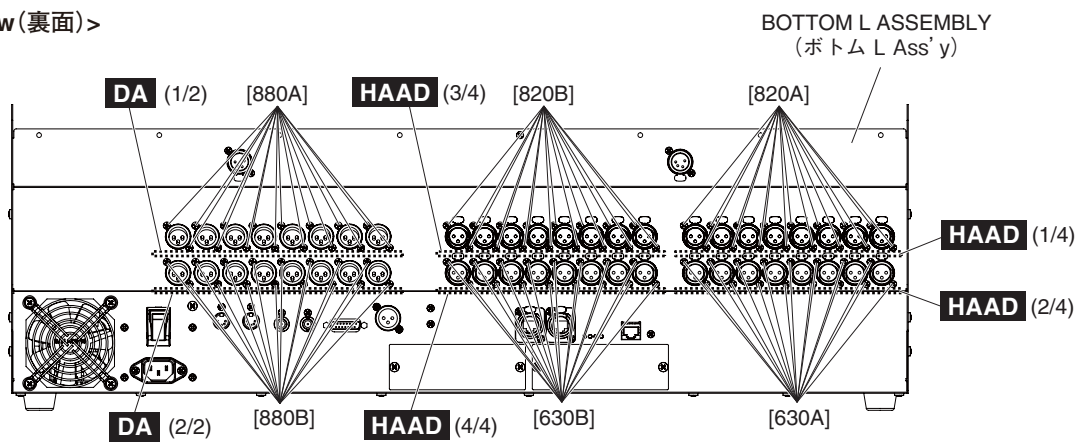

Fig. 6 (図6)
A-7-3-1 Remove the sixteen (16) screws marked [820A] and two (2) screws marked [830A]. The HAAD (1/4) circuit board can then be removed. (Fig. 6)
- * **When installing the HAAD (1/4) circuit board, first tighten the screw marked [820A] and then tighten the screws marked [830A]. (Fig. 6)**
A-7-4-2 Remove the sixteen (16) screws marked [630A] and two (2) screws marked [700A]. The HAAD angle L and HAAD (2/4) circuit board can then be removed. (Fig. 6)
A-7-4-3 Remove the two (2) screws marked [700B]. The HAAD angle L can then be removed. (Fig. 6)
- * **When installing the HAAD (2/4) sheet, tighten the screws marked [630A] first and then tighten the screws marked [700A] and [700B] in the order ❶ – ❹ shown in Fig. 6**
A-7-5-1 Remove the sixteen (16) screws marked [820B] and two (2) screws marked [830B]. The HAAD (3/4) circuit board can then be removed. (Fig. 6)
- * **When installing the HAAD (3/4) circuit board, first tighten the screw marked [820B] and then tighten the screws marked [830B]. (Fig. 6)**
A-7-6-2 Remove the sixteen (16) screws marked [630B] and two (2) screws marked [670A]. The HAAD angle and HAAD (4/4) circuit board can then be removed. (Fig. 6)
A-7-6-3 Remove the two (2) screws marked [670B]. The HAAD angle can then be removed. (Fig. 6)
- * **When installing the HAAD (4/4) sheet, tighten the screws marked [630B] first and then tighten the screws marked [670A] and [670B] in the order ❶ – ❹ shown in Fig. 6**
A-7-3-1 [820A] のネジ 16 本と [830A] のネジ 2 本を外して、HAAD (1/4) シートを外します。(図 6)
- ※ HAAD (1/4) シートを取り付ける際は、[820A] のネジを締めてから [830A] のネジを締めてください。(図 6)
A-7-4-2 [630A] のネジ 16 本と [700A] のネジ 2 本を外して、HAAD アングル L と HAAD (2/4) シートを外します。(図 6)
A-7-4-3 [700B] のネジ 2 本を外して、HAAD アングル L を外します。(図 6)
- ※ HAAD (2/4) シートを取り付ける際は、[630A] のネジを締めてから、図 6 に示す ❶ ~ ❹ の順に [700A] と [700B] のネジを締めてください。
A-7-5-1 [820B] のネジ 16 本と [830B] のネジ 2 本を外して、HAAD (3/4) シートを外します。(図 6)
- ※ HAAD (3/4) シートを取り付ける際は、[820B] のネジを締めてから [830B] のネジを締めてください。(図 6)
A-7-6-2 [630B] のネジ 16 本と [670A] のネジ 2 本を外して、HAAD アングルと HAAD (4/4) シートを外します。(図 6)
A-7-6-3 [670B] のネジ 2 本を外して、HAAD アングルを外します。(図 6)
- ※ HAAD (4/4) シートを取り付ける際は、[630B] のネジを締めてから、図 6 に示す ❶ ~ ❹ の順に [670A] と [670B] のネジを締めてください。
A-8-3-1 Remove the sixteen (16) screws marked [880A] and two (2) screws marked [890A]. The DA (1/2) circuit board can then be removed. (Fig. 6)
- * **When installing the DA (1/2) circuit board, first tighten the screw marked [880A] and then tighten the screws marked [890A]. (Fig. 6)**
A-8-4-2 Remove the sixteen (16) screws marked [880B] and two (2) screws marked [890B]. The DA (2/2) circuit board can then be removed. (Fig. 6)
- * **When installing the DA (2/2) circuit board, first tighten the screw marked [880B] and then tighten the screws marked [890B]. (Fig. 6)**
A-8-3-1 [880A] のネジ 16 本と [890A] のネジ 2 本を外して、DA (1/2) シートを外します。(図 6)
- ※ DA (1/2) シートを取り付ける際は、[880A] のネジを締めてから [890A] のネジを締めてください。(図 6)
A-8-4-2 [880B] のネジ 16 本と [890B] のネジ 2 本を外して、DA (2/2) シートを外します。(図 6)
- ※ DA (2/2) シートを取り付ける際は、[880B] のネジを締めてから [890B] のネジを締めてください。(図 6)